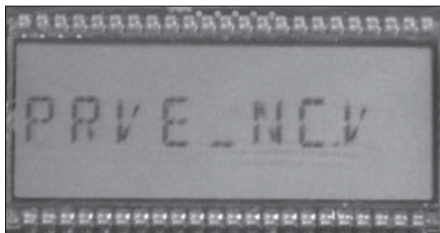

Figure 8 - LCD screen changes to **PRVE_NC.V**
- C. Hold the magnet for about five seconds on the word "ES3" where the label says **ROOTS® ES3 Index** next to the LCD screen display until the display changes to **PRVE_NC.V** (Figure 8).